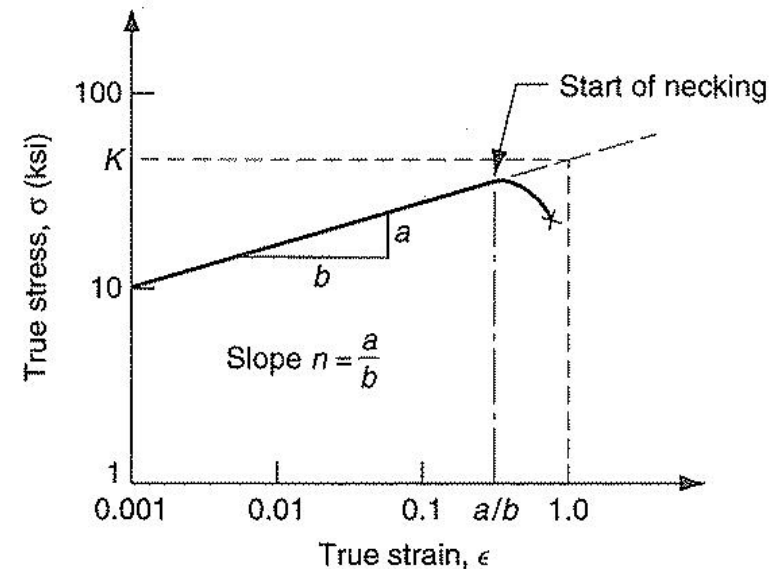

Fig. 3-6: true stress-strain curve plotted on a log-log scale.
- With plotting the true stress and true strain of the plastic region on a log-log scale, the result would be a linear relationship as in fig. 3-6, and the relation between true stress and true strain would then be: